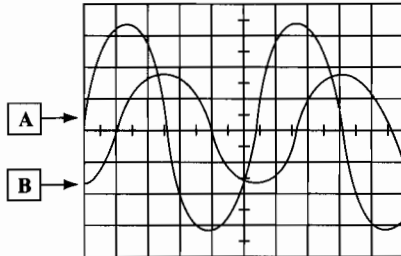

Figure C-8-1
14. Figure C-8-1 illustrates an oscilloscope display showing the time relationship between two sine waves. Assume the VOLTS/DIV control is set to 1.0 V/div. Draw a phasor diagram showing the relationship between the two waves.
15. Assume the oscilloscope display shown in Figure C-8-1 has the SEC/DIV control set to $5.0 \mu\text{s}/\text{div}$. Determine the frequency of the waveforms.